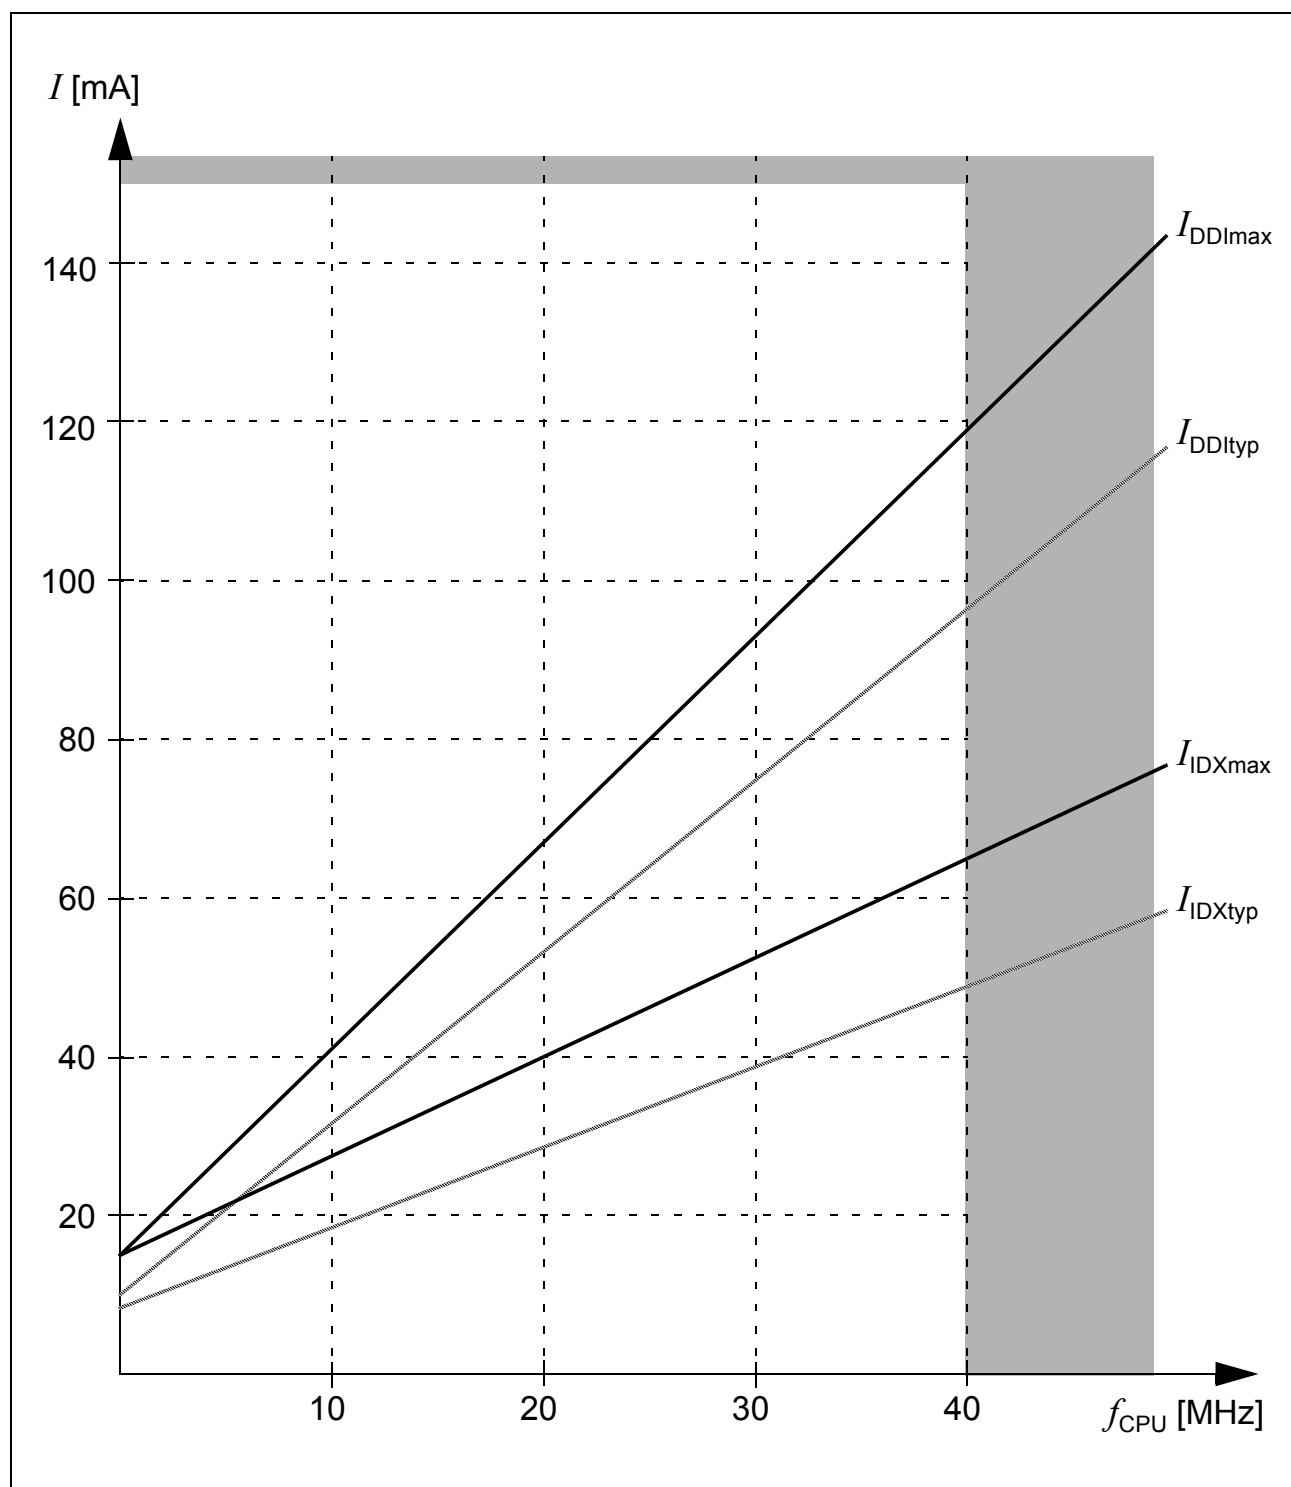

Figure 10 Supply/Idle Current as a Function of Operating Frequency
- 2) The supply current is a function of the operating frequency. This dependency is illustrated in Figure 10. These parameters are tested at V_{DDImax} and maximum CPU clock frequency with all outputs disconnected and all inputs at V_{IL} or V_{IH} .